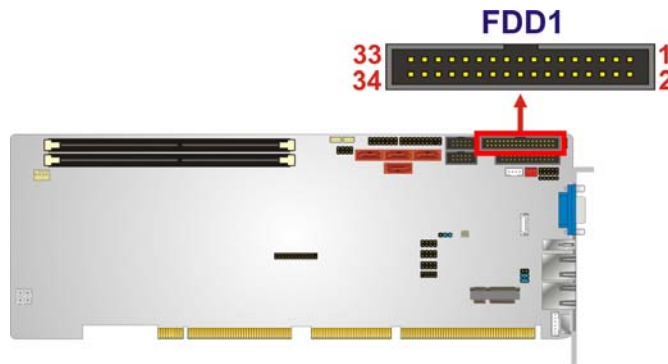

Figure 3-11: Floppy Disk Connector Location
- CN Location:** See **Figure 3-11**